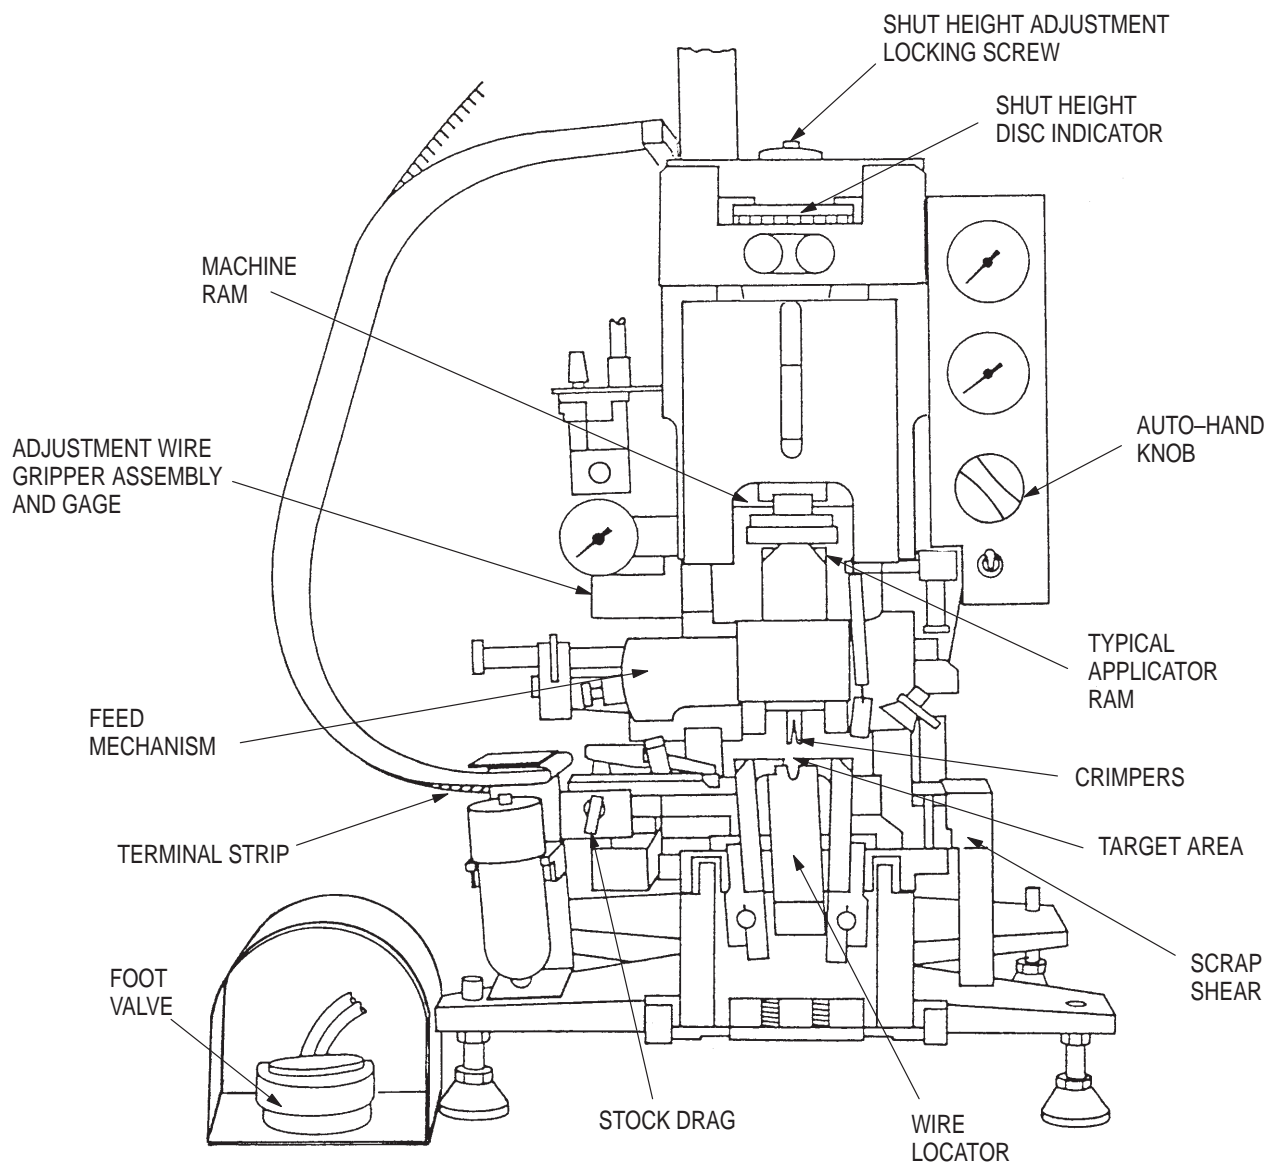

Figure 4-1. Machine Features – Operation
4.1. Terminal Strip Loading and Unloading (Figure 4-1)
4.2. Production Setup (Figure 4-1)
- d. The "shut height fine adjust" may be used, for example, when an applicator is not properly shimmed for the machine shut height setting. The factory set machine (854040) is 135.79 mm [5.346 in.]. To fine adjust the shut height, unlock the screw adjust (31, Figure 4-1). Insert dowel pin into holes of disc indicator (33) and move as required; Each increment on disc indicator is 0.013 mm [.0005 in.].